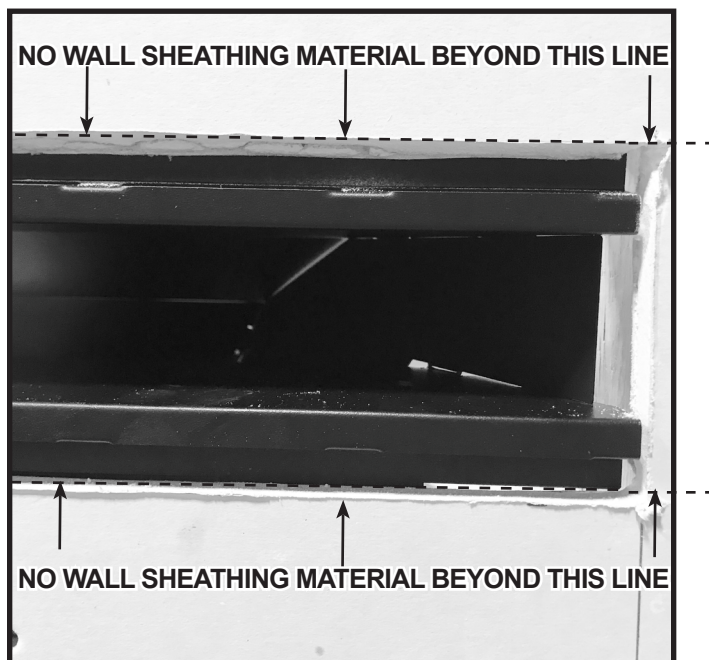

Figure 6.1 Wall Sheathing Installed
1. Apply wall sheathing material up to 1/2 inch thick up to the edge of the plenum. See Figure 6.1.